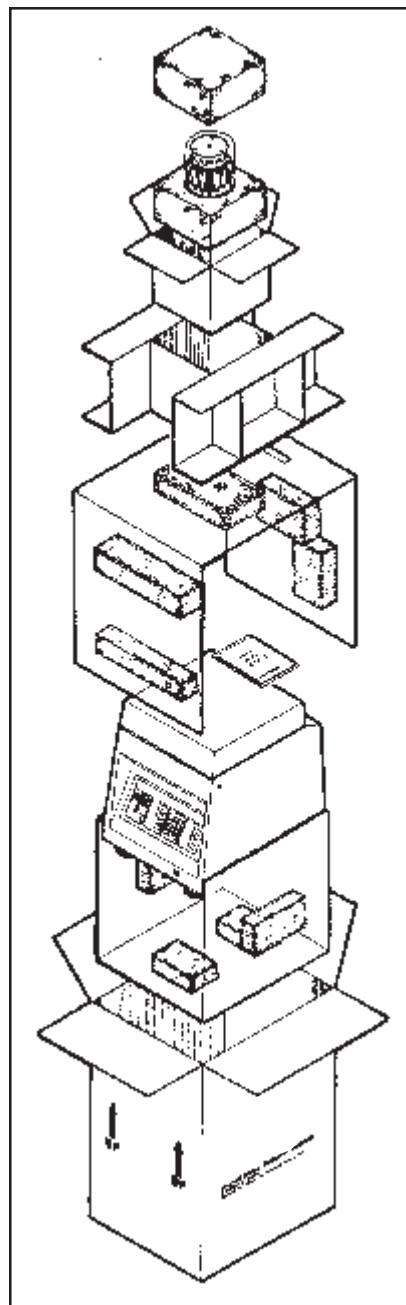

Figure 2-1 Unpacking
Note: Refer to Figure 2-1 while unpacking.
1. Remove the small box containing the rotor (Figure 2-1).